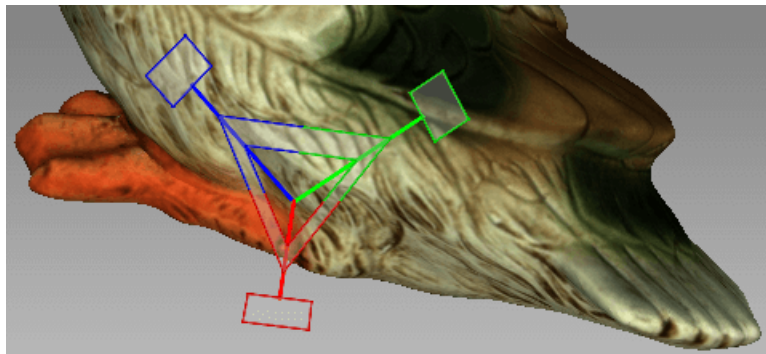

Figure 183: Scaling control
- Drag the origin of the control (Figure 183) or either of its round ends in the *3D View* window.